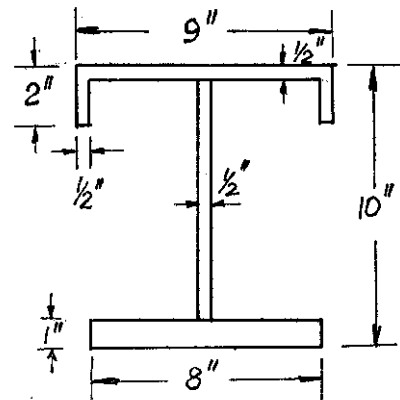

Figure 5
5. Find the shape factor for a built-up steel beam having the dimensions shown in Figure 5. The yield stress is  $15.25 \text{ tonf/in}^2$ .